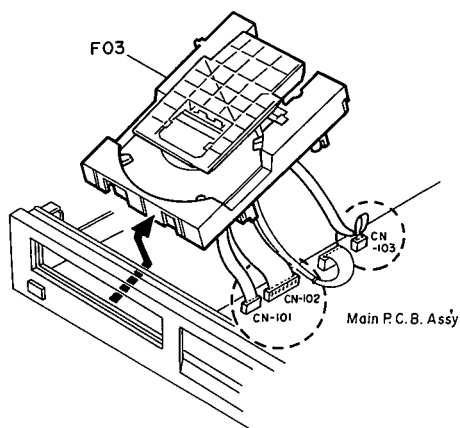

Fig. 2.7.2
- (1) Remove the Top Cover Ass'y referring to item 2.1.
- (2) Remove the Disc Tray Cover Ass'y referring to item 2.2.
- (3) Loosen screws F01 (4 pcs.).
- (4) Push F02 (Disc Tray Ass'y) to load it.
- (5) Remove F03 (Disc Mechanism Ass'y) referring to Fig. 2.7.2.
**Caution:** Do not disconnect connectors CN101, CN102 and CN103 as the Laser Pickup will be damaged. (When disconnecting connectors, short-circuiting solder must be applied to the Laser Pickup. Refer to item 2.9.)